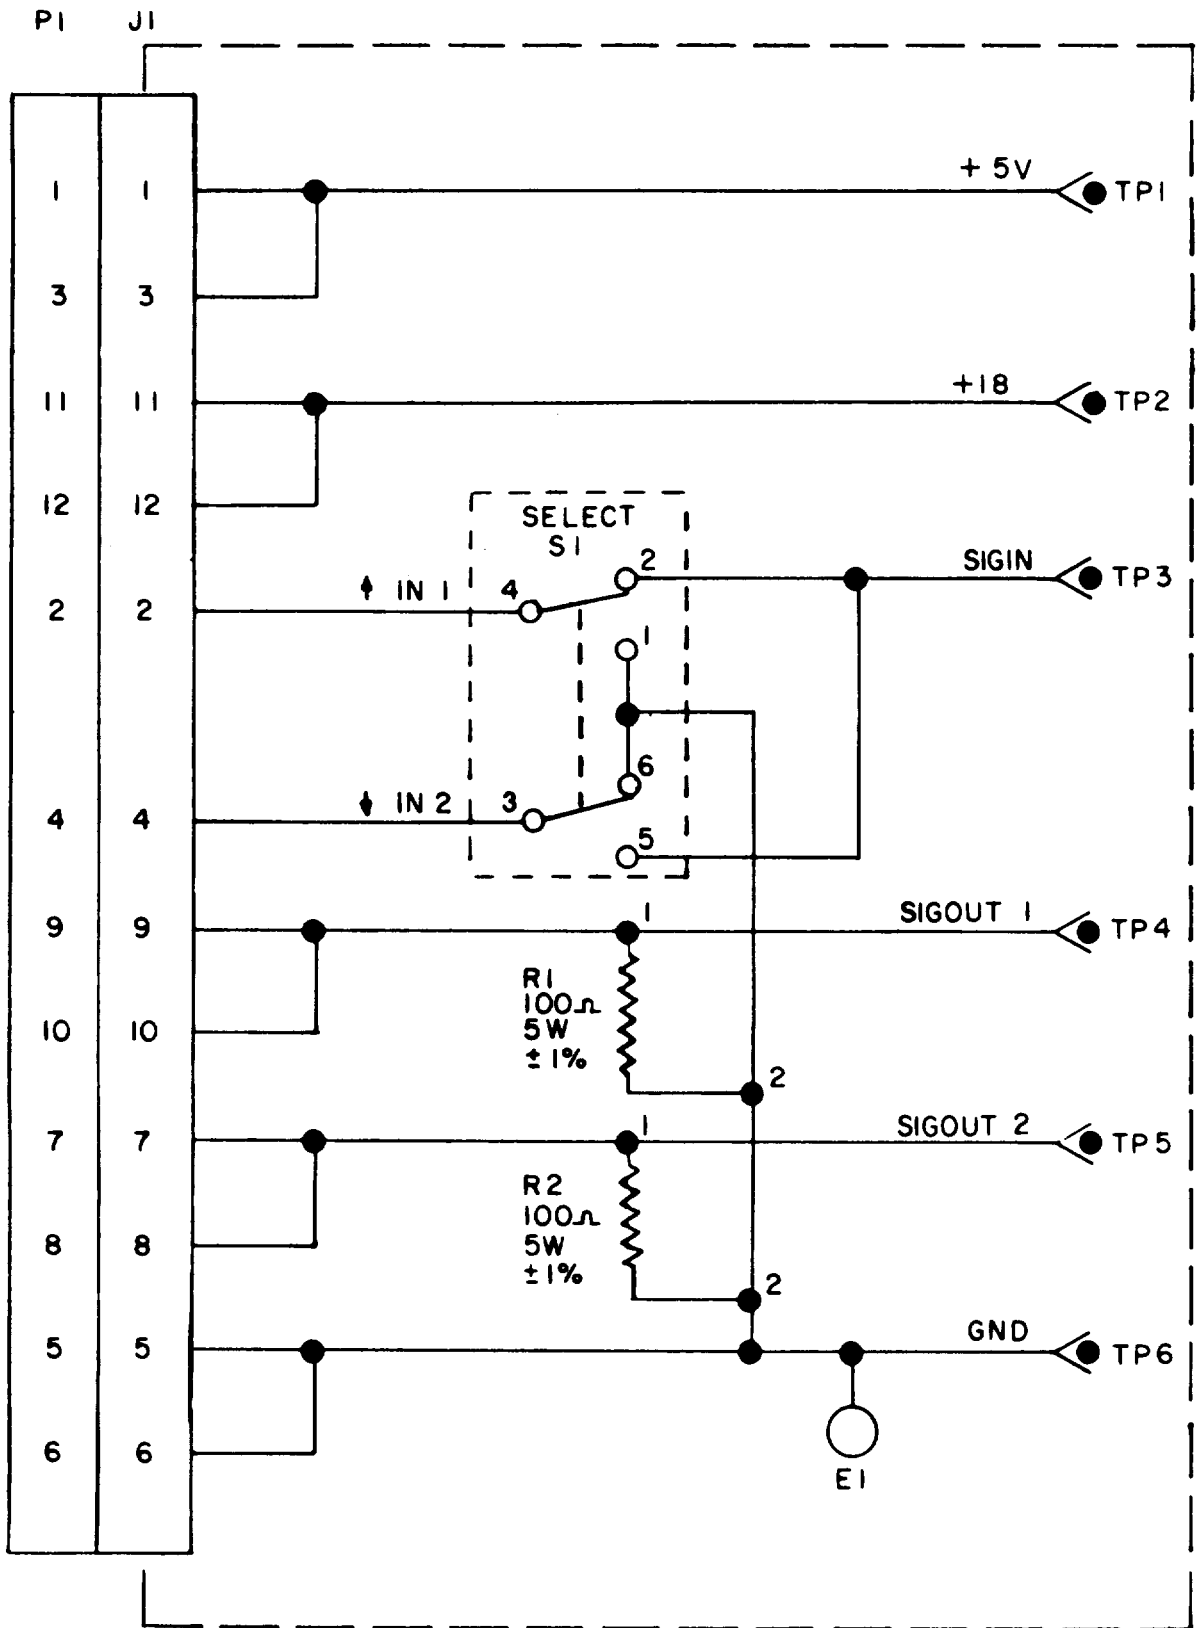

Figure 6-40. HAMMER DRIVER TEST FIXTURE, SCHEMATIC DIAGRAM.
B. HAMMER DRIVER MODULE TEST FIXTURE TEST PROCEDURES (fig. 6-40)